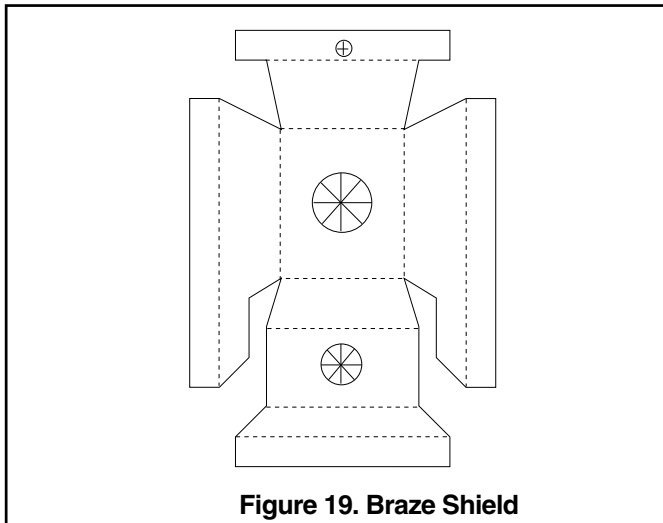

Figure 19. Braze Shield
**NOTE: A brazing shield is provided in the Accessory Kit accompanying this unit. This shield fits over the refrigerant fittings while brazing. Wet the shield before brazing. See Figure 19.**